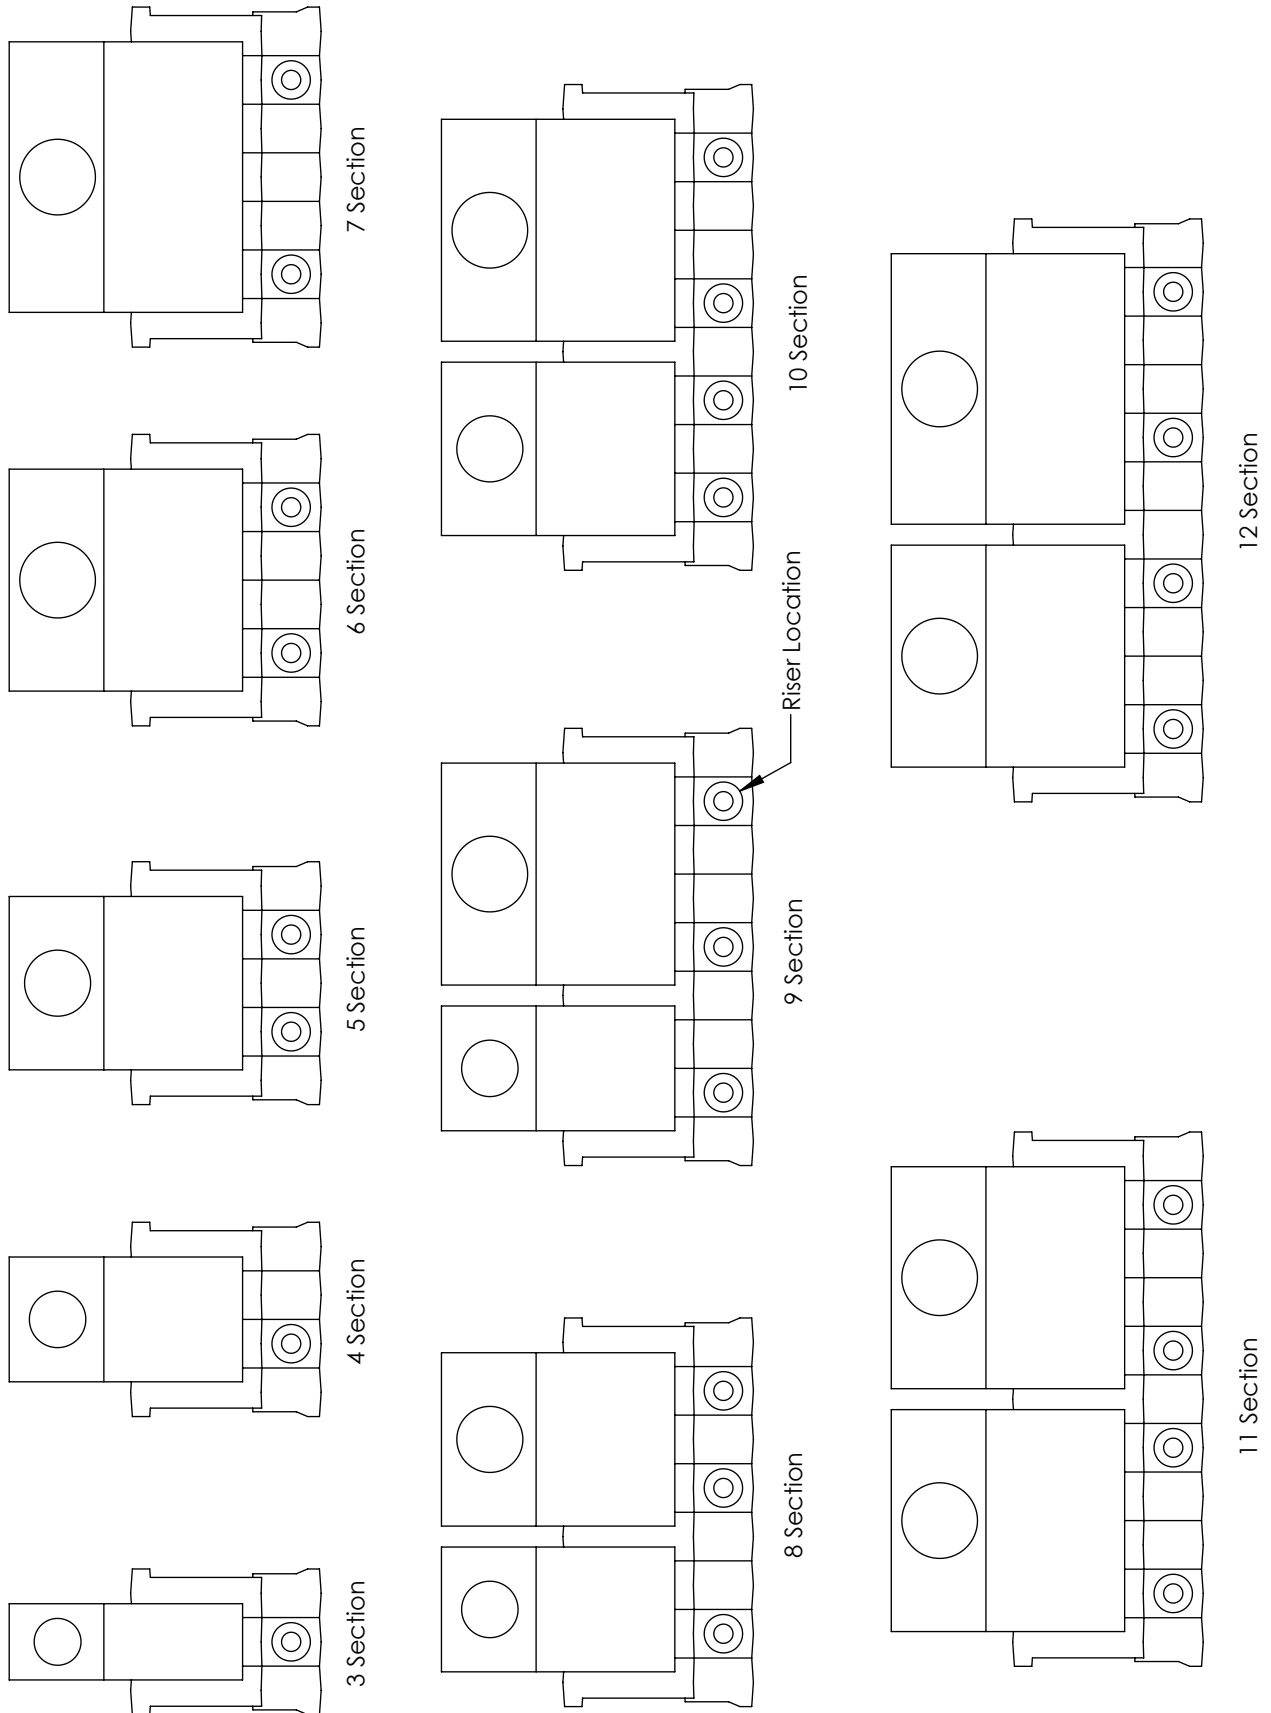

Figure 4-4: Arrangement of Sections and Canopies
NOTICE: Refer to Figure 4-4 for proper location of intermediate section with and without riser tappings.
2. See Figure 4-4 for canopy locations.